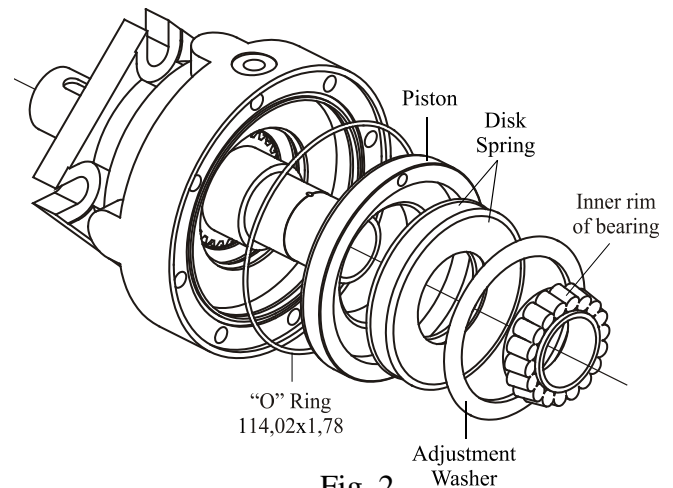

Fig. 2
4. Remove piston from housing. Use special tool with two screws M5x20 screwed in M5 holes to rest in advance and using a puller. Take the O-rings and the Back up rings out of piston and bushing grooves. The piston will come out with inner rim of bearing, adjustment washer and dick springs (see Fig.2).